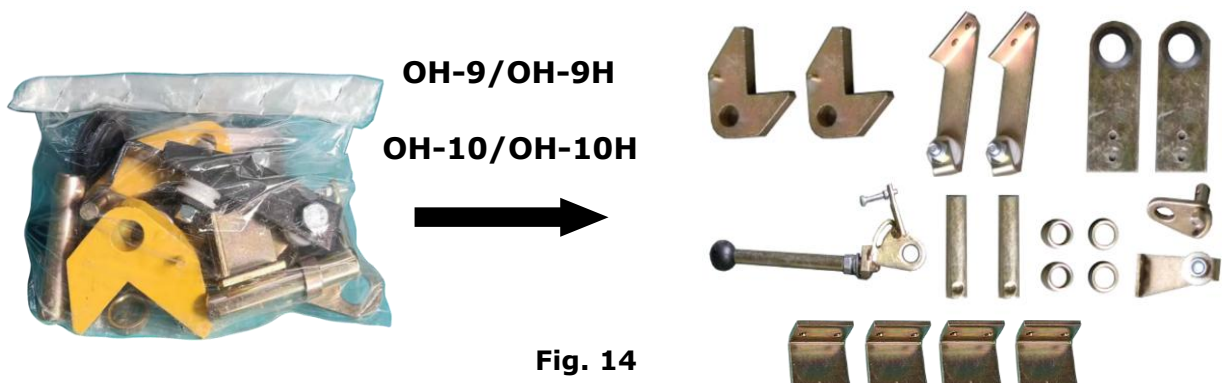

Fig. 14
6. Open the bag 2 of parts and check the parts according to parts bag list (See Fig. 14).